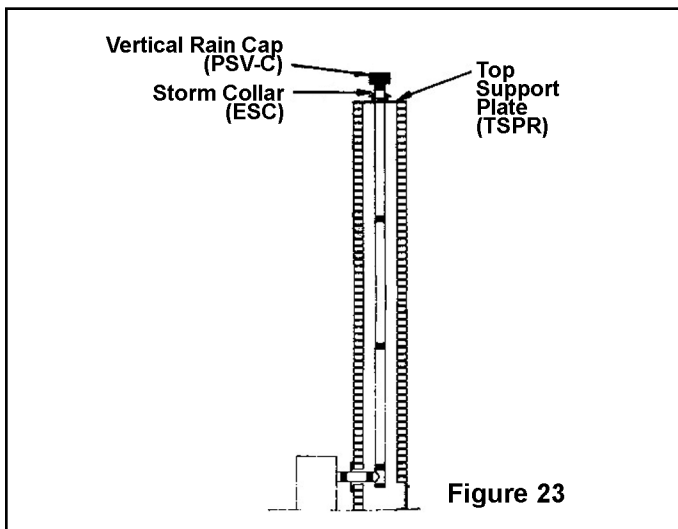

Figure 23
- A. A listed freestanding pellet stove (Figure 23)
8. Refer to the **Flashing, Storm Collar and Cap** section of these instructions, and install a storm collar and cap above the support plate (Figures 23 and 28).